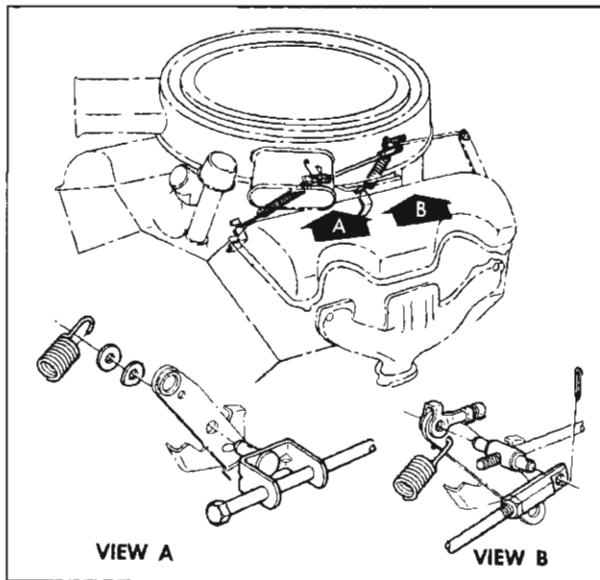

Fig. 49—Accelerator Linkage
5. If necessary to adjust, disconnect accelerator rod at carburetor and adjust swivel so it freely enters hole in carburetor throttle lever (fig. 49), then connect and secure accelerator rod with retainer clip.